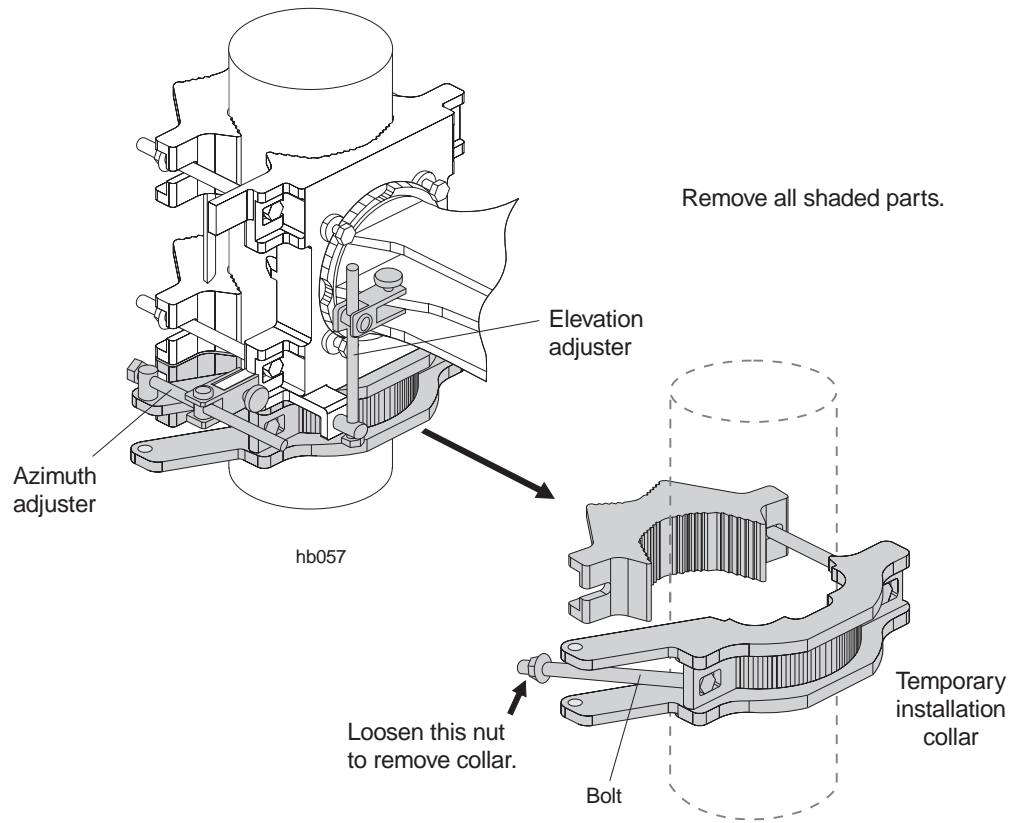

Figure 4-24 Removing the temporary collar, clamp, and adjusters
6. Remove the temporary collar, clamp, and adjuster(s) (figure 4-24), and keep these tools for future installations.